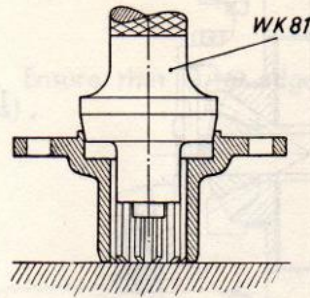

Fig. 11
14. See flange turns true. When dismantling, mark the splines so that it can be correctly re-assembled. Should the drive be changed the flange should be drifted off and machined true in position on the shaft (Figs. 11 and 12).